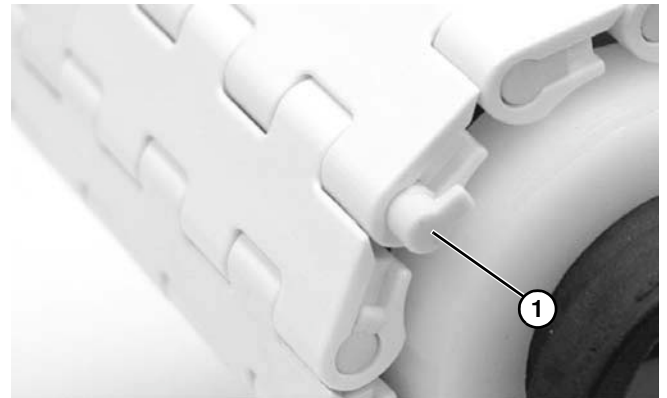

Figure 46
5. Insert rod retaining end caps (**Figure 46, item 1**) on both sides of belt.